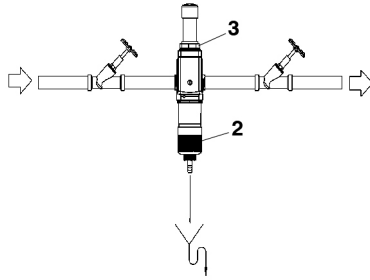

Figure 9. Cartridge exchange II
2. Turn the handwheel for backwashing (2) contraclockwisely so that the pressure remaining in the device can escape (see Figure 9).
3. Unscrew the union nut (3) at the phosphate cartridge contraclockwisely.